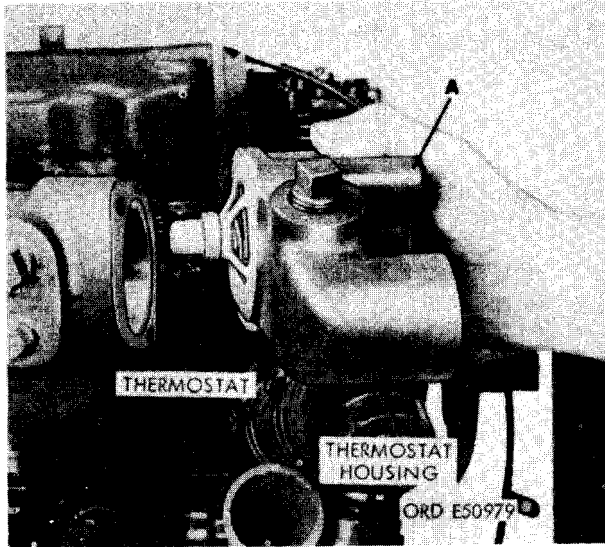

FIGURE 110. REMOVING OR INSTALLING THERMOSTAT HOUSING AND THERMOSTAT.
- (2) Figure 110. (A) Remove thermostat housing assembly with thermostat installed. (B) Remove and discard intake manifold-to-thermostat housing gasket.